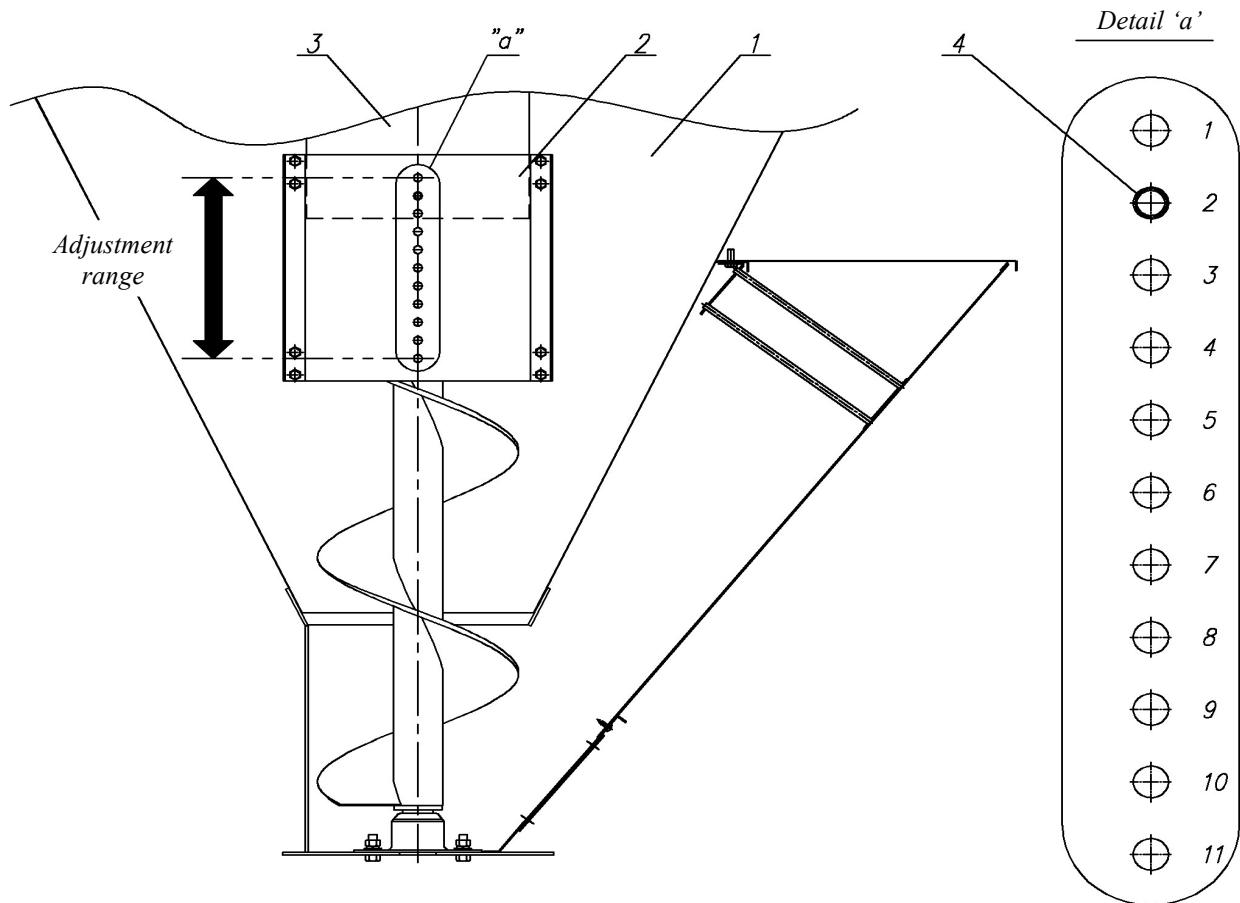

Figure 10. Adjustment of the screw housing: 1 – mixer MS, 2 – adjustment cover, 3 - screw housing, 4 – location pin.
b) Depending on the type of feed components (their content of dust fractions, contaminations, husks etc.) and to obtain the maximum efficiency of the mixer, the adjustment cover of the screw housing (Fig. 10) needs to be installed accordingly (if applicable). In a standard version, the manufacturer installs the said cover on the second or the third (MS-2000) adjustment opening (detail 'a'). If the mixed material tends to adhere to the mixer walls, then the adjustment cover should be installed higher. This way, a larger part of the screw will be exposed. When the material gets into the screw easily and does not stuck, then the adjustment cover can be installed at a lower level.